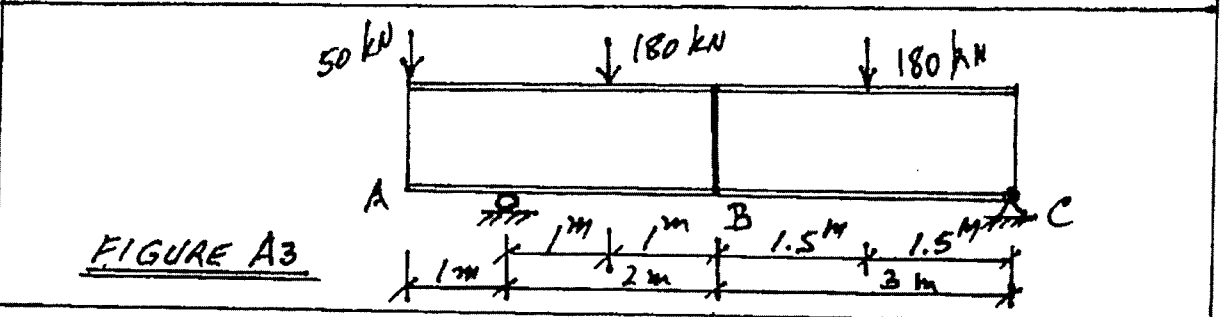

FIGURE A3
- A3. The simply-supported steel I-beam W360x79 of G40.21 350W with an overhang, is made up of two equal lengths, AB and BC, as shown in Figure A3. Design a welded rigid connection at B to transfer both flexure and shear at B for the given loading.